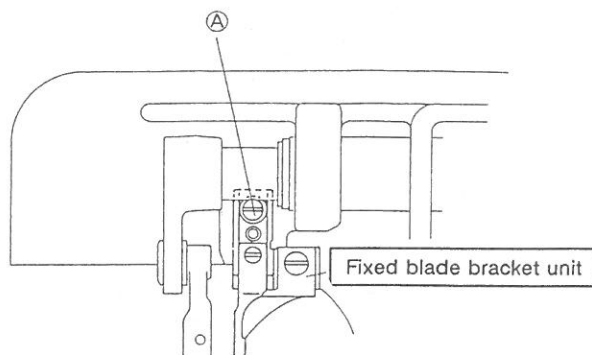

Fig. 4
- (1) As shown in Fig. 4, install the fixed blade bracket unit with the hook positioner dismounted, and then fix with the screws ①.